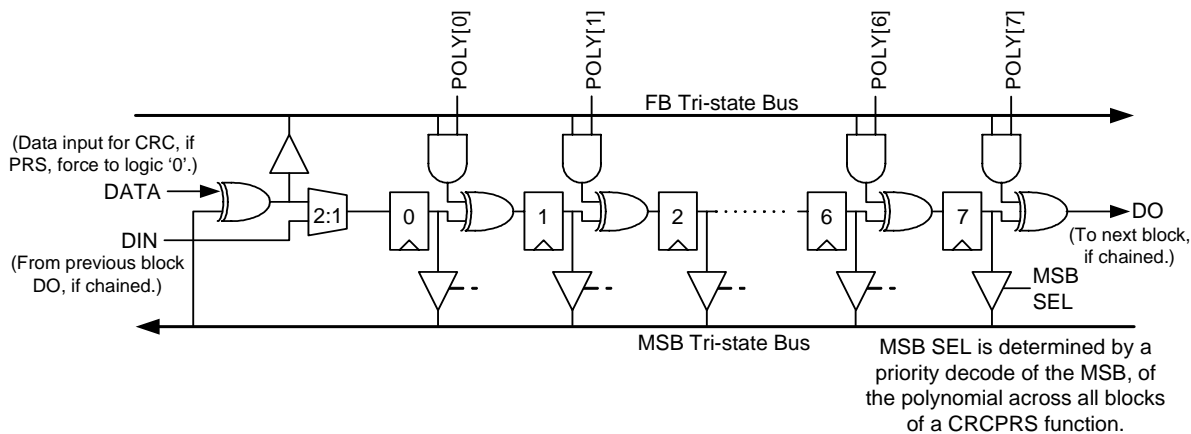

Figure 17-4. CRCPRS LFSR Structure
The LSFR (Linear Feedback Shift register) structure, as shown in Figure 17-4, is implemented as a modular shift register generator. The least significant block in the chain inputs the MSB and XORs it with the DATA input, in the case of CRC computation. For PRS computation, the DATA input is forced to logic '0' (by input selection) and therefore, the MSB bus is directly connected to the FB bus. In the case of a chained block, the data input (DIN) comes directly from the data output (DO) of the LFSR in the previous block. The MSB selection, derived from the priority decode of the polynomial, enables one of the tri-state drivers to drive the MSB bus.